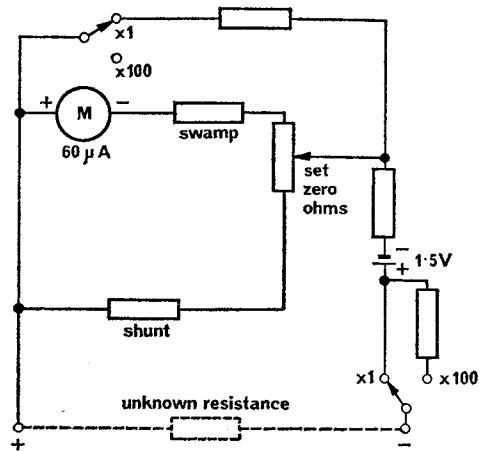

Fig. 3. Simplified circuit CT511
5. **Circuit.** The simple circuit of the ohmmeter section of the CT 511 multimeter is shown in Fig. 3. The selector switch enables two ranges of measurement to be made by shunting the meter on the low range (X1), and by adding a series resistor on the high range (X100). The energy source used is a 1.5V cell and the meter is zeroed by adjusting the proportion of the total current flowing through the movement and the shunt by means of a potentiometer (set zero ohms). This arrangement makes the meter less dependent on battery voltage than the simple series type described in para. 1. The swamp resistor in series with the meter movement is to minimize the effect on the accuracy of the instrument due to the changing resistance of the meter coil with temperature when in use.
h. When checking polarised components such as diodes or electrolytic capacitors it must be remembered that the positive supply from the internal battery is connected to the negative terminal of the instrument (see Fig 3).